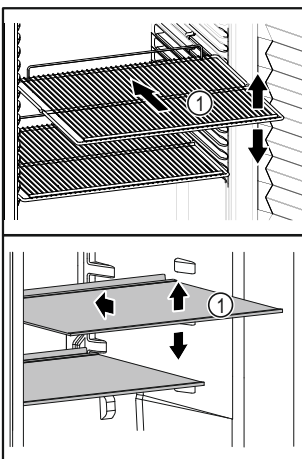

Fig. 86 Example illustration
- If storage surfaces Fig. 86 (1) are movable, adjust them according to height.